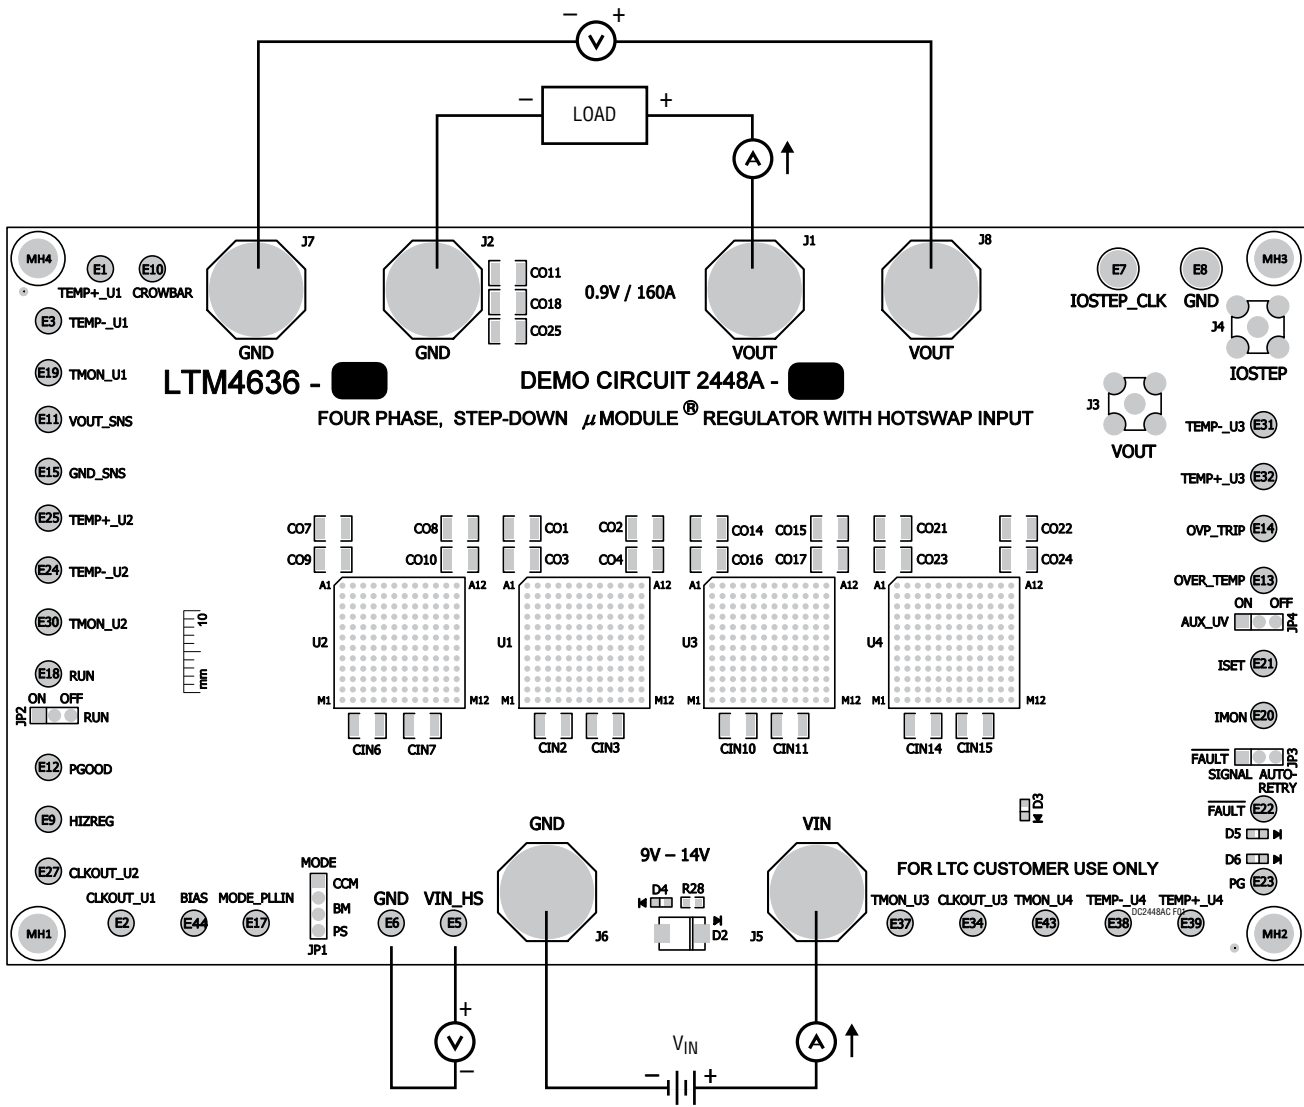

Figure 1. Measurement Setup of DC2448A-C
Demonstration circuit DC2448A-C is an easy way to evaluate the performance of PolyPhase operation of the LTM4636EY. Due to the high input/output current, the user should select the proper input supply/load/cable which can sustain the full load operation. Please refer to Figure 1 for proper measurement equipment setup and follow the procedure below:
2. With power off, connect the input power supply, load and meters as shown in Figure 1. Preset the load to 0A and V_{IN} supply to 12V.